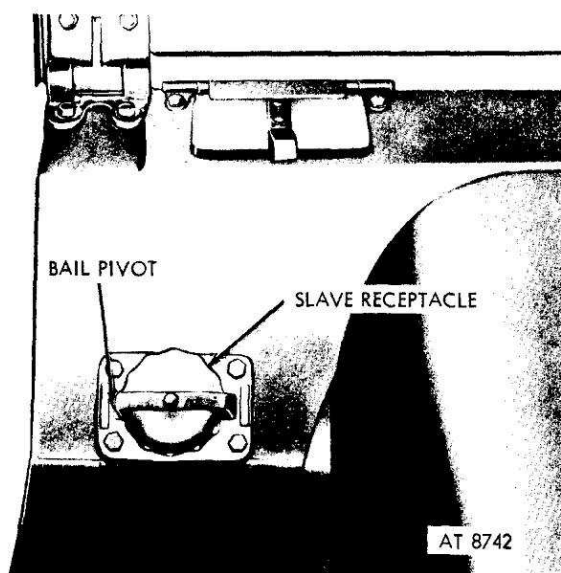

Figure 4-2. Slave receptacle.
c. Electrical Controls. In order to prevent damage to the heater exchanger unit of the heater, a time-delay mechanism is built into the on-off switch circuit. With this system, the blower continues to run after the switch has been turned off and fuel has ceased to flow to the burner. A temperature-sensitive switch shuts off current to the blower only when the heat exchanger has cooled to the point where warpage of the heat exchanger or other damage cannot occur. The heater control box (F) also contains an overload relay with reset feature (D) to prevent damage to the electrical wiring in case of electrical malfunction. An indicator light (C) is incorporated into the control switch panel. This light serves a double purpose. First, it indicates the burner is in operation, since it is connected to a temperature-sensitive switch. Secondly, the light continues to burn after the heater is shut off and goes out only when the burner is cool enough to ignite safely. An emergency switch (A) is furnished, covered by a safety panel, which turns off the whole heater electrical system without regard to damaging the components, etc. This switch is for use only in event of atomic or chemical warfare attack to prevent the heater from circulating contaminated air inside the vehicle.
d. Slave Receptacle (Fig. 4-2). An electrical slave receptacle, located on the right cowl, provides a means of starting the vehicle with a service cable connected to a cold starting aid kit (slave kit).
f. Diverter Actuator Damper Control Handle (K). This handle is used to control air flow to the defroster or crew compartment by positioning a damper in the diverter box.
g. Exhaust Diverter Control Handle (L). This handle is used to divert heater exhaust gas to a shroud on the engine oil pan, when oil pan heating is desired.
h. Indicator Light (C). This light indicates that combustion is occurring in the heater. The light will go out during the heater "OFF" cycle.
i. Slave Receptacle. The slave receptacle, (fig. 4-2) located on the right front cowl panel, enables the vehicle to accept auxiliary electrical power through a service cable. The receptacle has an index slot and the female connectors are located off-center so that connections will be made correctly.
- (6) *Battery heater.* Battery box heating (H) is automatically controlled. A thermostat in the box controls a damper door actuator at the right hand side of the diverter box.
- (7) *Slave receptacle.* (Refer to fig. 4-2.) Turn cap counterclockwise and lift clear of receptacle. Insert service cable connector into receptacle socket. Be sure arrow and indexing dot on service cable connector are aligned with slot in receptacle. Refer to TM 9-207 for proper use of cold starting aid kit (slave kit).